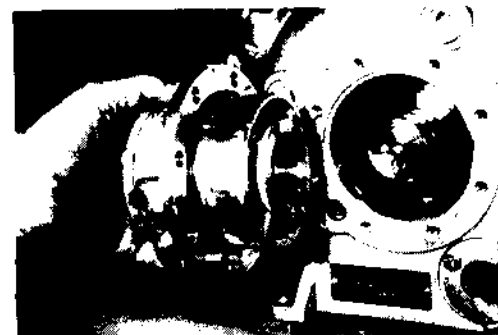

FIGURE 2
4. Pull the bearing head out of the housing (Figure 2).